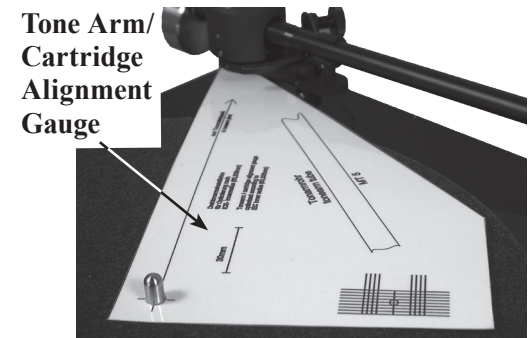

Figure 25
1. Place the Gauge over the center spindle post on the Platter and position the Gauge so the curved end is in contact with the horizontal pivot of the Tone Arm. Refer to figures 25 and 26.